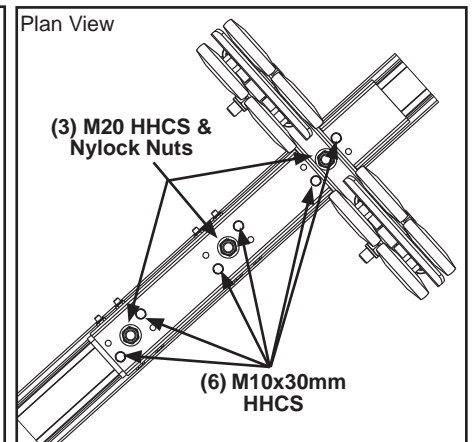

Figure 3-93
- Step 3. Tighten two (2) M10 x 30 mm HHCS and nylock nut on each of three (3) mounting brackets. Tighten bolts until lock washer is flat. Do not over tighten. See Figure 3-93
- Step 9. If centering adjustment is needed, loosen three (3) M10 x 30 mm HHCS and nylock nuts, tap end truck bracket to match runway center to center.